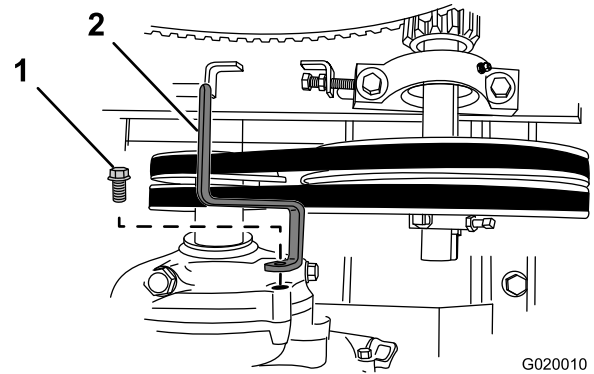

Figure 57
3. Remove the bolt that secures the belt guide to the engine, and remove the belt guide (Figure 57).
7. Loosely secure the belt guide to the engine (Figure 57) with the bolt that was removed in step 3 of Removing the Belts (page 34).